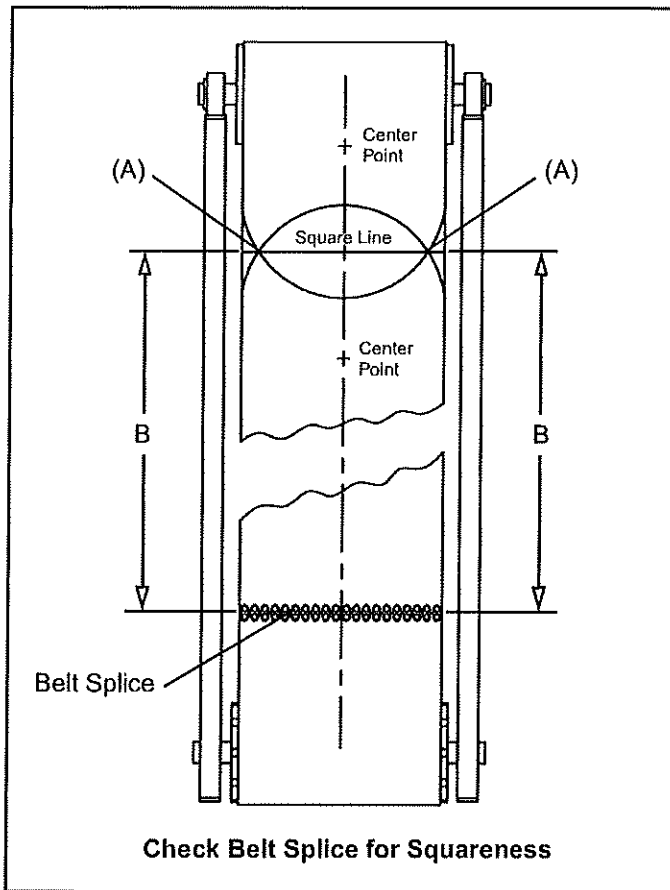

Figure 46
4. Check the belt splice for squareness. Mark the center point of the belt using light colored chalk or pencil. Then draw an average centerline using these points as a guide. Locate two center points on the belt for arc placement. Draw the arcs on the belt. Using a steel straight edge, draw the square line through the two arc intersection points (A). Measure an equal distance (B) on both sides of the belt from the square line to belt splice. Check the belt run on the return run side of the conveyor, or place a large plywood board under the belt on the load side to get accurate measurements (Figure 46).